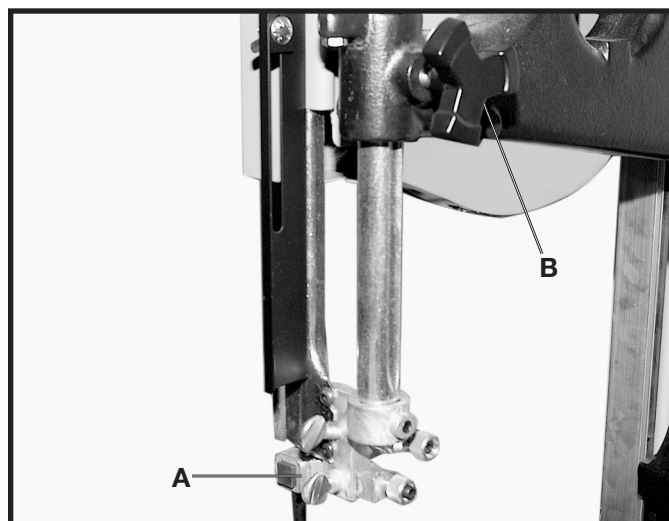

Fig. 53
Set the upper blade guide assembly (A) Fig. 53 as close as possible to the top surface of the workpiece. Loosen the lock knob (B) and move the guide assembly (A) to the desired position.